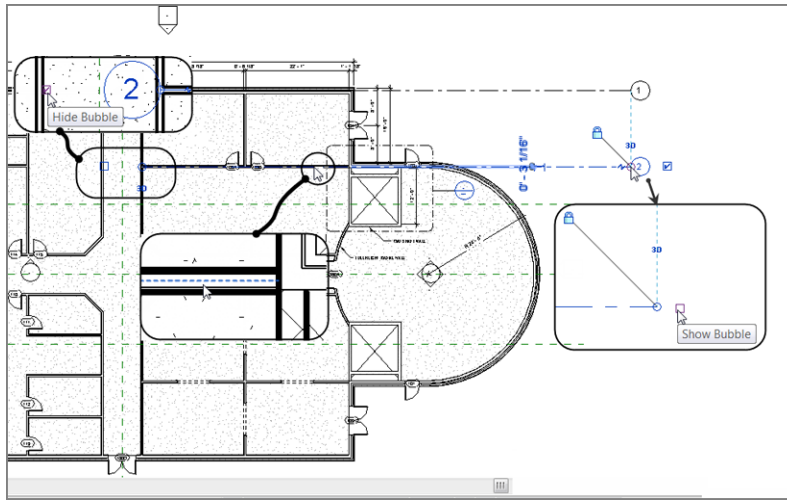

FIGURE 8.5: Adding the second grid line
10. Pick the core centerline of the interior wall that terminates at the exterior wall, as shown in Figure 8.5.
13. On the left side of grid 2 are a grid bubble (see Figure 8.5) and the same blue check box. Click the check box to turn off the grid head at this location.